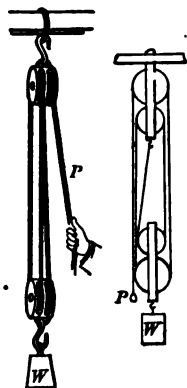

FIG. 26. — Double blocks.
**29. Combinations of pulleys.** In practical work it is quite common to use a fixed block with two sheaves and a movable block with two sheaves, as shown in figure 26. One end of the rope is attached to the fixed block, and the effort is applied to the other end of the rope. Let us compute the relation between the weight to be lifted and the effort applied. From figure 26 it will be seen that the weight and the movable block are supported by *four* ropes, and so the pull on each rope, neglecting the weight of the block, is *one fourth* the weight  $W$ . It will also be seen that the pull  $P$  is equal to that in each of the ropes, since a pulley only changes the direction of the pull. Therefore
Another example is the system of pulleys shown in figure 26 in section 29. The *output* is equal to the weight  $W$  times the distance it is lifted, and the *input* is equal to the effort  $P$  times the distance through which it is exerted. Suppose the distance the weight  $W$  is lifted is  $D$ ,